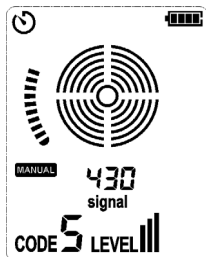

Figure 7.1.4b – Signal Detected
2. Use the sensor to scan the target cable to identify the maximum signal level. During cabling tracking, adjust the sensitivity regularly so that the signal strength maintains at a certain range (i.e., 300~600), as shown in **Figure 7.1.4b**. The sensitivity can be increased or decreased by pressing the UP or DOWN button. If the signal strength is too high, set the transmission level to **II** or **I**. For specific settings, see “**6.1 WCT-700T Settings**”.